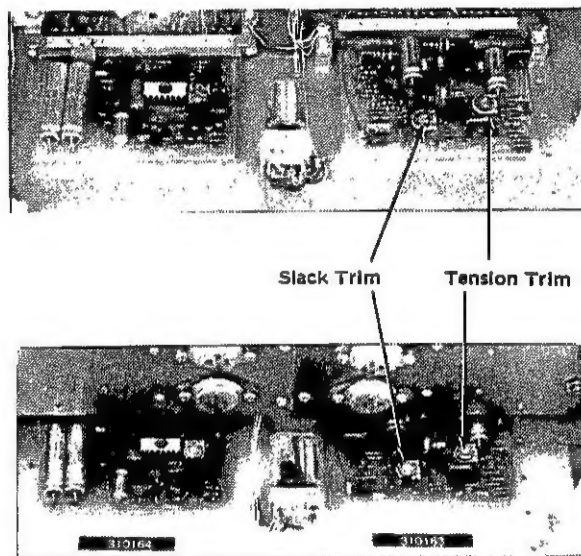

Figure 2-7. Servo and Resolver Boards
Step 4 Locate the tension trimmer on the SERVO CONTROL BOARD beneath the transport and adjust it for a reading of 10 volts across the power resistor (for 2" tape, 1" tape requires 7 volts). See figure 2-7.
- Step 2** Locate the SLACK control on the SERVO CONTROL BOARD (refer to figure 2-7).